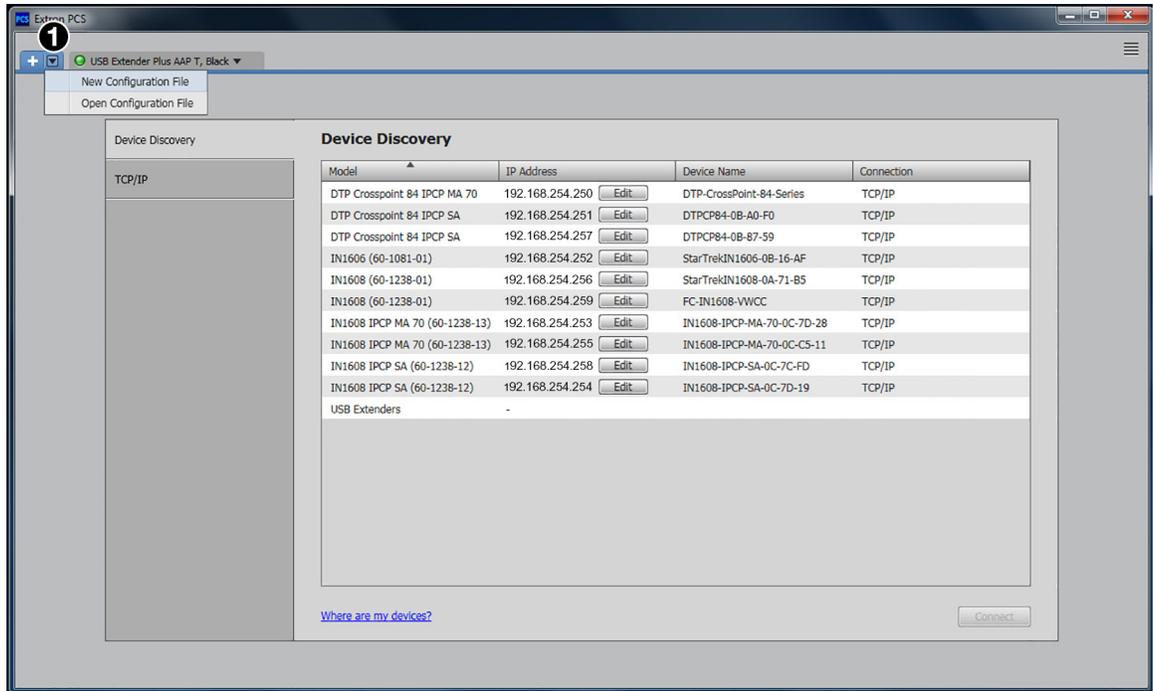

Figure 26. Selecting New Configuration File on the PCS Window
4. On the **Extron PCS** window, click the down arrow button in the upper-left corner (see figure 26, **1**) to display the configuration drop-down list.